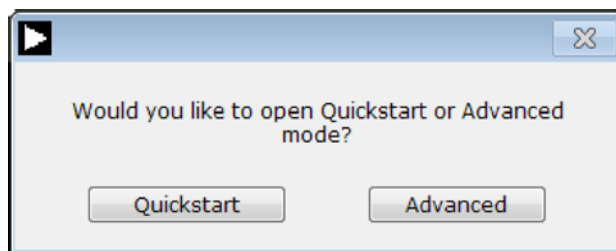

Figure 15. **AD411x Eval+** Startup Mode Selection
3. The dialog box shown in Figure 15 appears as a pop-up over Figure 16. Quick start mode provides a simplified version of the software that can be used as a starting point for evaluating the **AD4115**. This mode provides a graphical user interface (GUI) for setting up inputs, as shown in Figure 16, and allows the user to configure the device further by using the blue + configuration buttons (Label 7 in Figure 16).